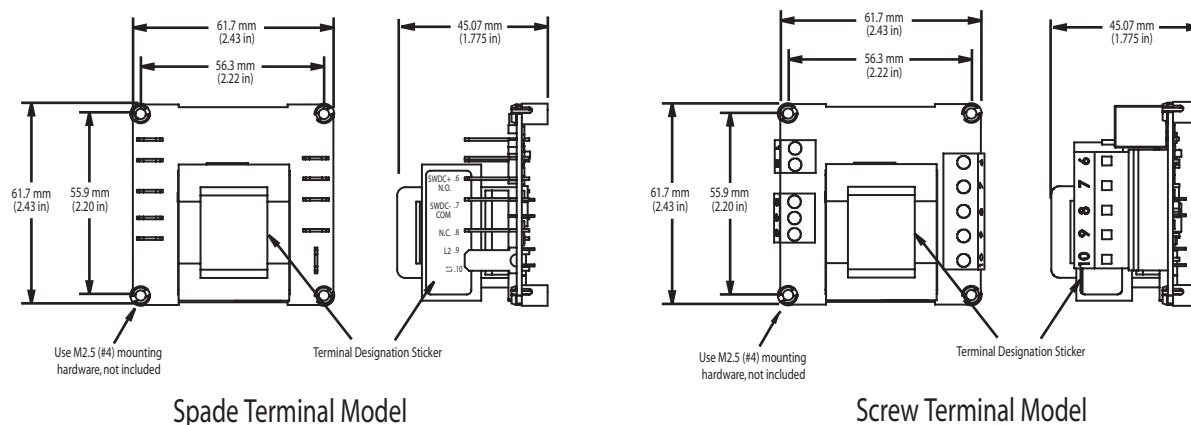

Figure 3a
1. Locate and drill four 3.2 mm (0.125 in) holes in the desired panel location. See Figure 3a for hole locations.